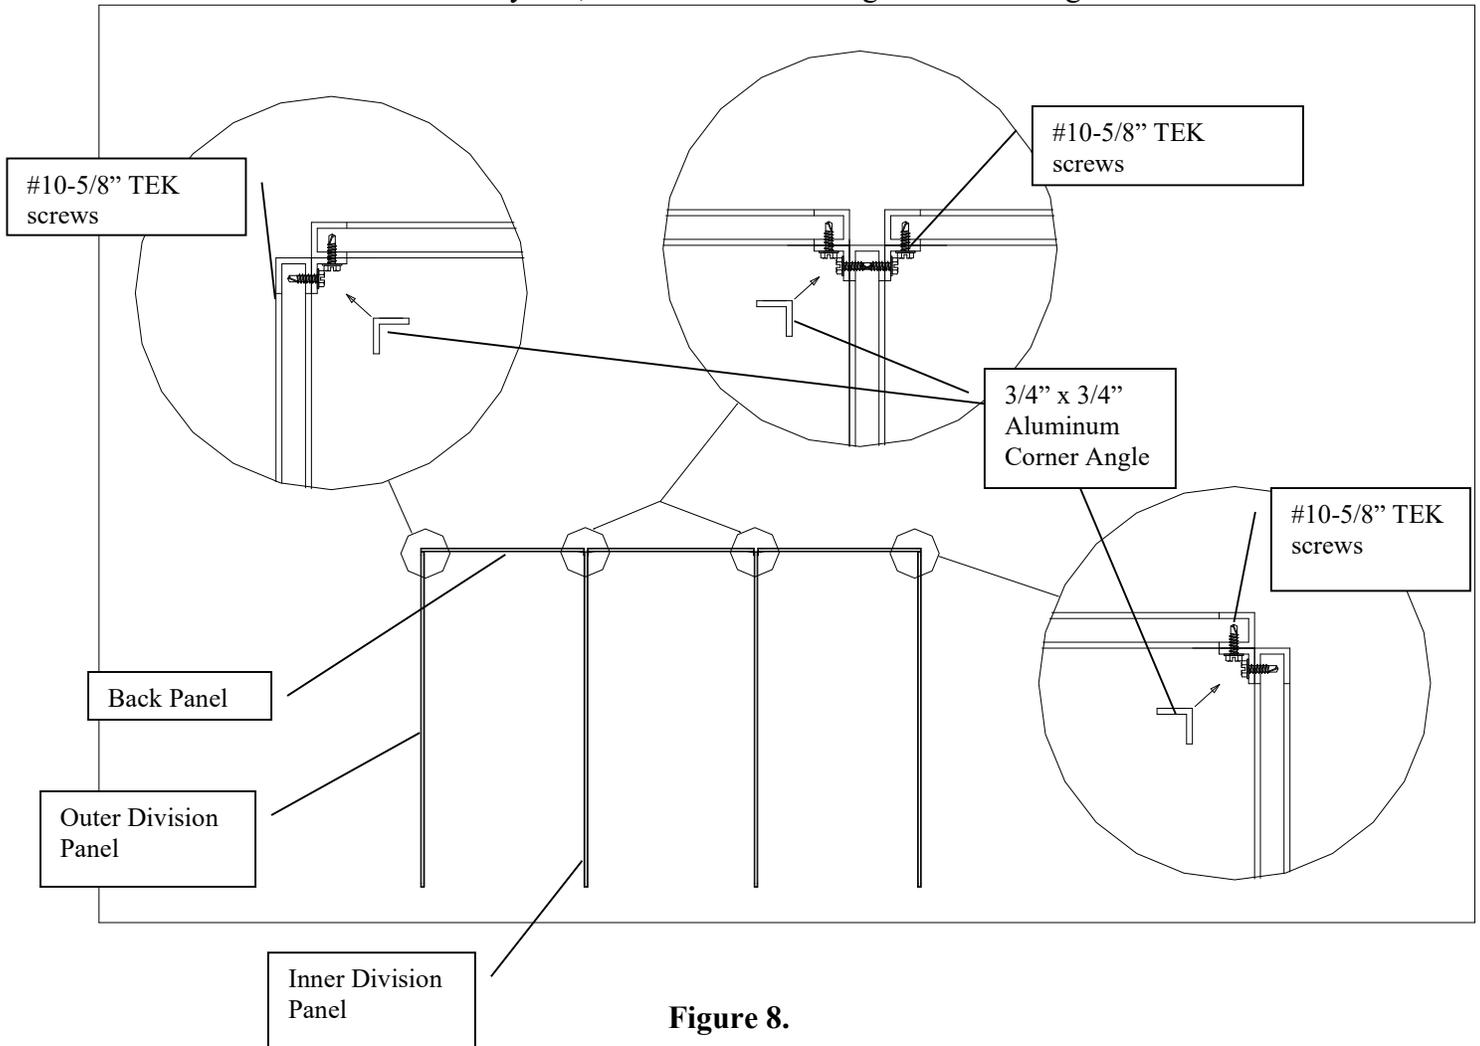

Figure 8.
6. Starting from the point you selected in step C-1 place the first "outer division panel" on the corresponding "Sanislope T". See Figure 8 for the sequence in which to assemble the panels.
7. Following the floor layout sequence, set the first back panel against the corner of the back edge of the end division panel. Clamp the full length corner angle in position (see Figure 8). The corner angles are predrilled with clearance holes in the proper locations. Vise grips or C-clamps are recommended to keep the parts from shifting. Fasten the panels together using #10 screws as depicted. Angles should be flush with the tops of the panels.
9. Continue placing and connecting division panels and back panels in the proper sequence, paying close attention to the corner layouts, as shown in the enlarged views on Figure 8.